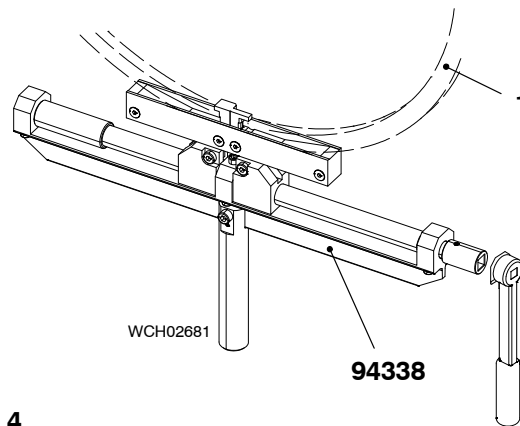
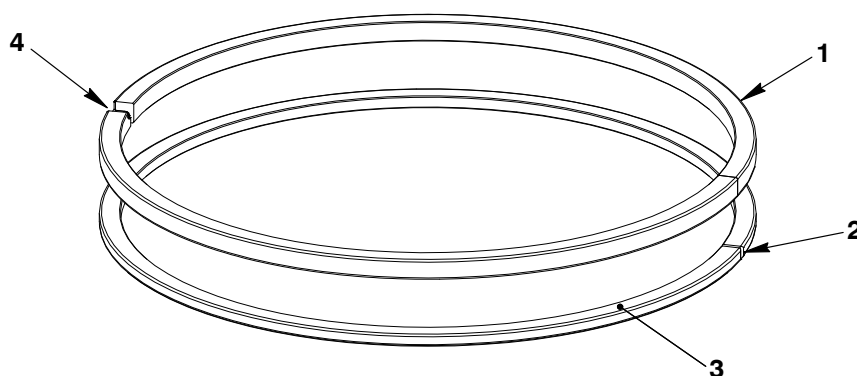

Fig. 4
Fig. 7
- 1) Use the tool (94338, Fig. 4) to remove the top and bottom piston rings (1). Make sure that you do not cause damage to the chrome-ceramic surface.
Note: Make sure that you use the tool (94338, Fig. 4) to install the piston rings.
- 1) Install the bottom piston ring (3, Fig. 7) to the piston head.
- 2) Use the tool (94338) to install the top piston ring (1) to the piston head. Make sure that the ring clearance (4) is opposite the ring clearance (2) of the bottom piston ring (3).
- 2) Use the tool (94338, Fig. 4) to install the bottom piston ring (3, Fig. 7) to the piston head.
- 3) Use the tool (94338) to install the top piston ring (1) to the piston head. Make sure that the ring clearance (4) is opposite the ring clearance (2) of the bottom piston ring (3).